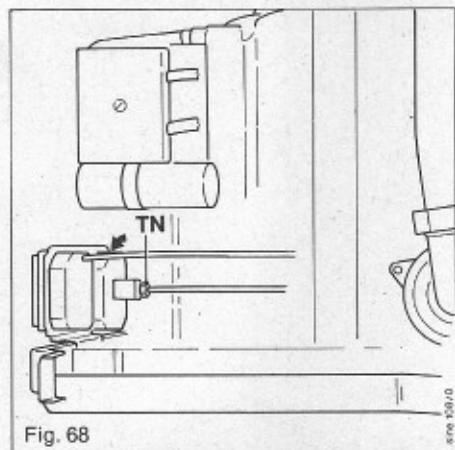

Fig. 68
14.13 Change of pressure gauge (Fig. 68)